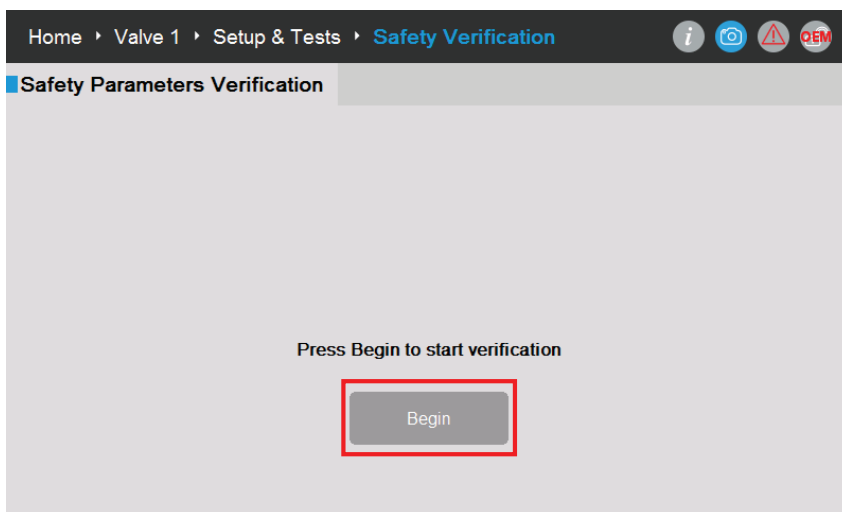
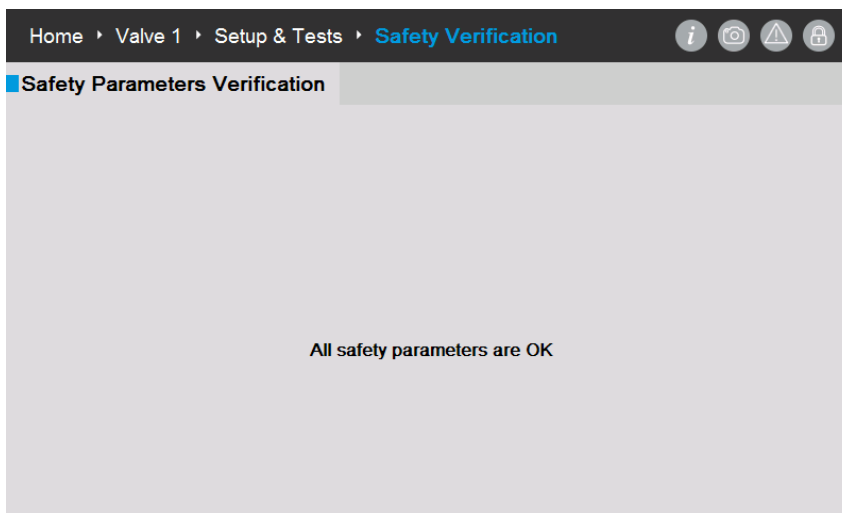

Fig. 121: Safety Parameters Verification page.
Fig. 122: Safety Parameters Verification completed.
10. Select the 'OK' button to proceed to the 'Safety Parameters Verification' step. Refer to Fig. 121 and Fig. 122.